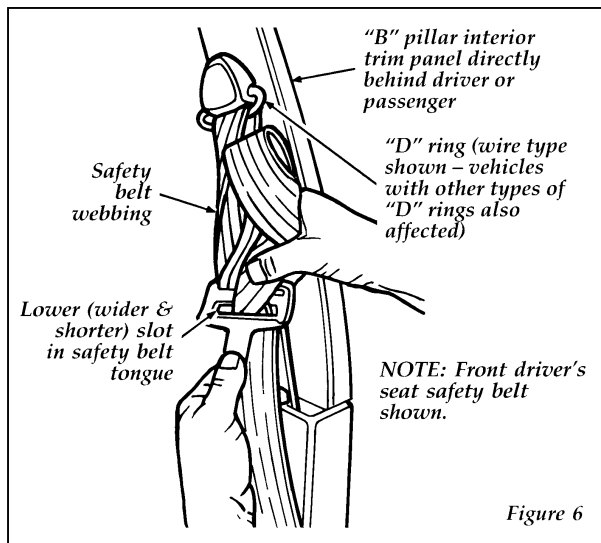

Figure 6
4. Repeat the above steps to complete the removal of the twist at the lower (wider and shorter) slot in the tongue. See Figure 6.